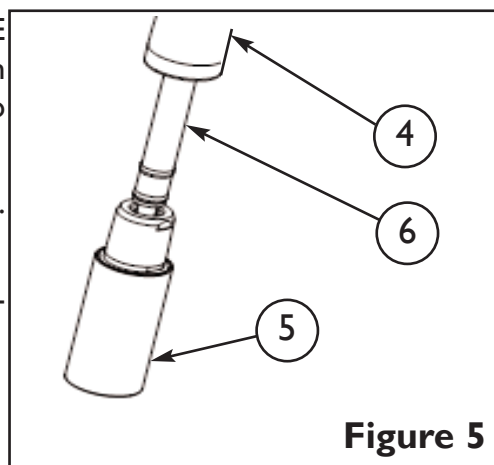

Figure 5
8. Pull SPRAYHEAD (5) out from SPOUT (4). While holding HOSE (6), detach SPRAYHEAD (5). Aiming HOSE (6) into sink, turn on faucet to center position (mixed) and flush for one minute to remove debris from lines.
9. Turn OFF faucet and reattach SPRAYHEAD (5) to HOSE (6). **See Figure 5.**
10. Check the SPRAYHEAD (5) by operating the trigger from aerator to spray.